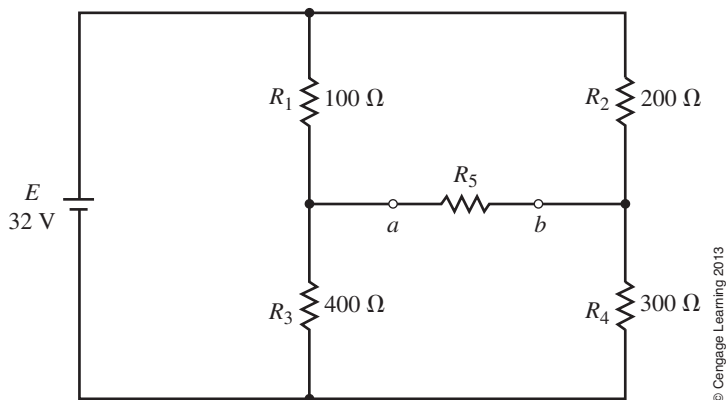

FIGURE 9-90
16. Refer to the circuit of Figure 9-90: